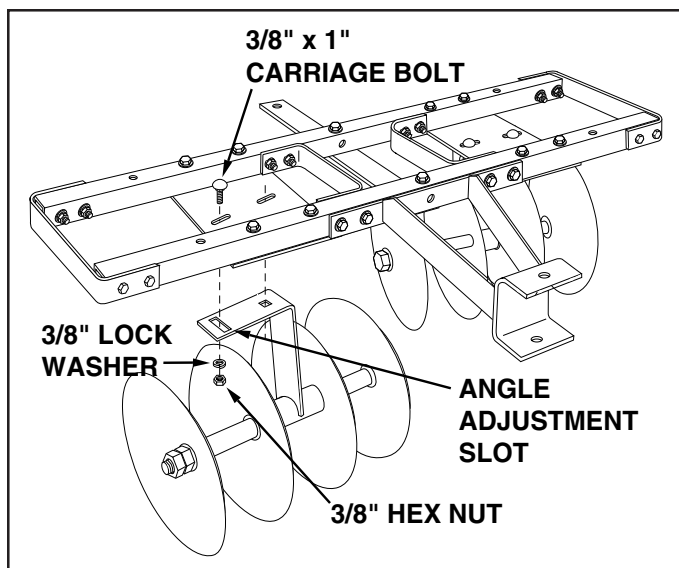

FIGURE 7
8. Assemble the disk assemblies to the disk mount plates using four 3/8" x 1" carriage bolts, 3/8" lock washers and 3/8" hex nuts. With the inside disks almost touching, swivel the disk assemblies until the angle adjustment slot is centered on the carriage bolt. This positions the disks at a 15 degree angle. **Tighten all bolts.** See figure 7.